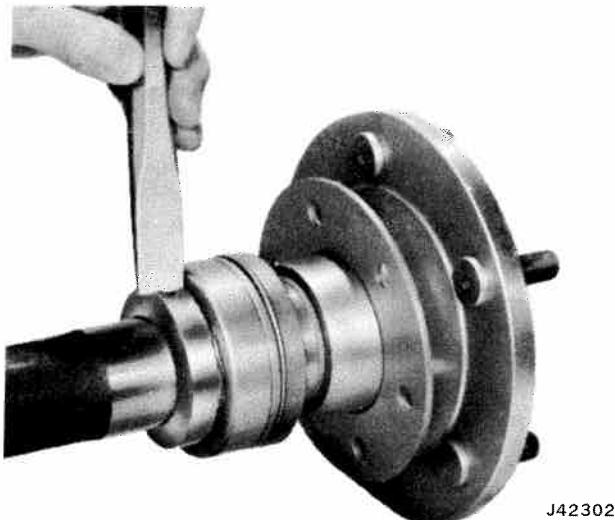

Fig. 10-15 Notching Bearing Retainer Ring
- (8) Position axle shaft assembly in a heavy vise.
- (9) Using chisel, cut a deep groove into retaining ring. This will enlarge bore of retaining ring, or split ring and permit it to be driven off of axle shaft (fig. 10-15).
- (10) Using a hacksaw, cut through oil seal, being careful not to damage seal contact surface. Remove oil seal from axle shaft.